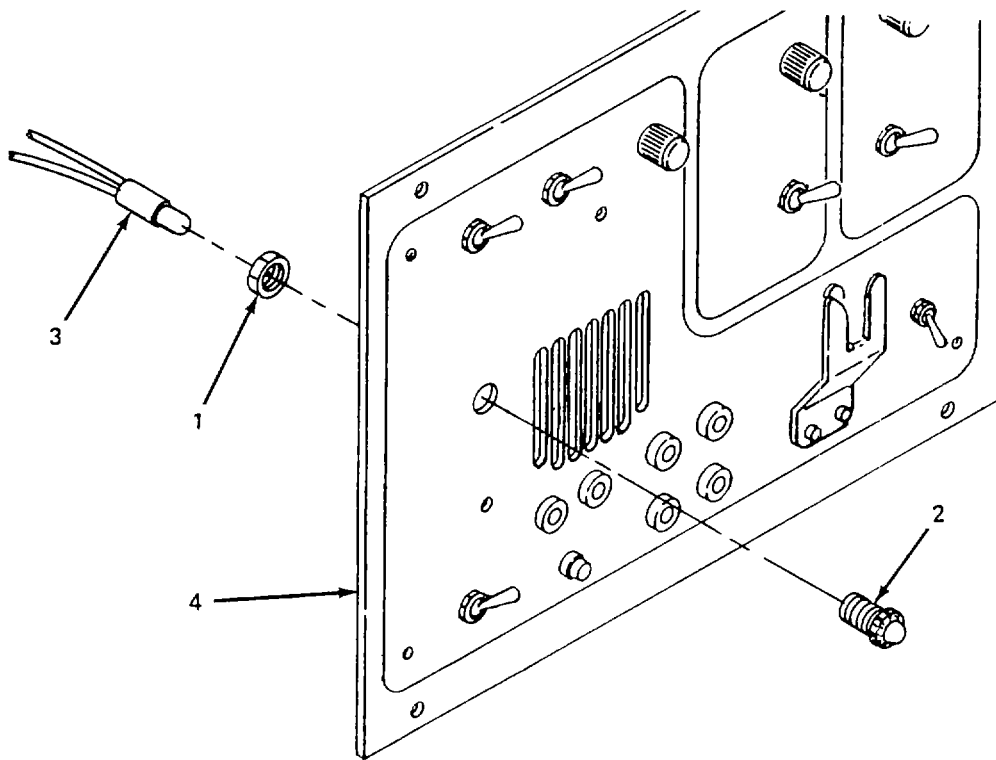

Figure 5-34. Front Panel Chassis Assembly Indicator Light, Replace.
(3) *Replace indicator light.* (figure 5-34)